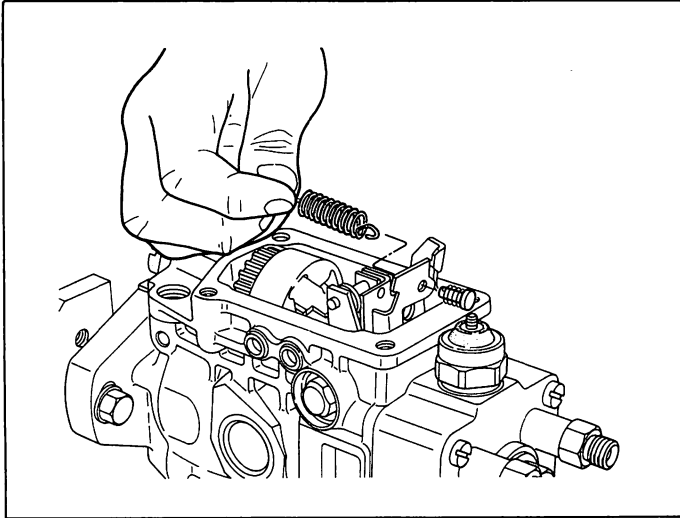

Fig. 94 Governor spring/retaining pin reassembly
1. Fit the retaining pin (120), together with the springs, onto the tension lever and then connect the retaining pin to the governor spring (122). (Fig. 94)